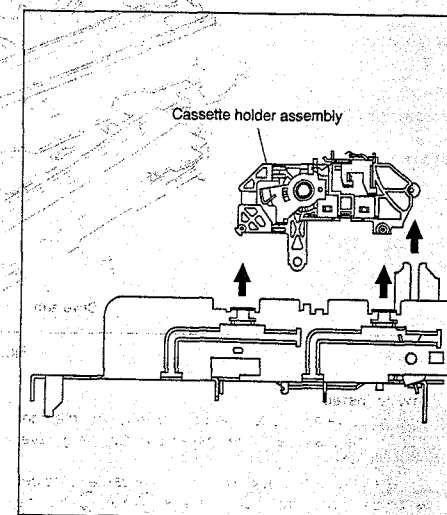
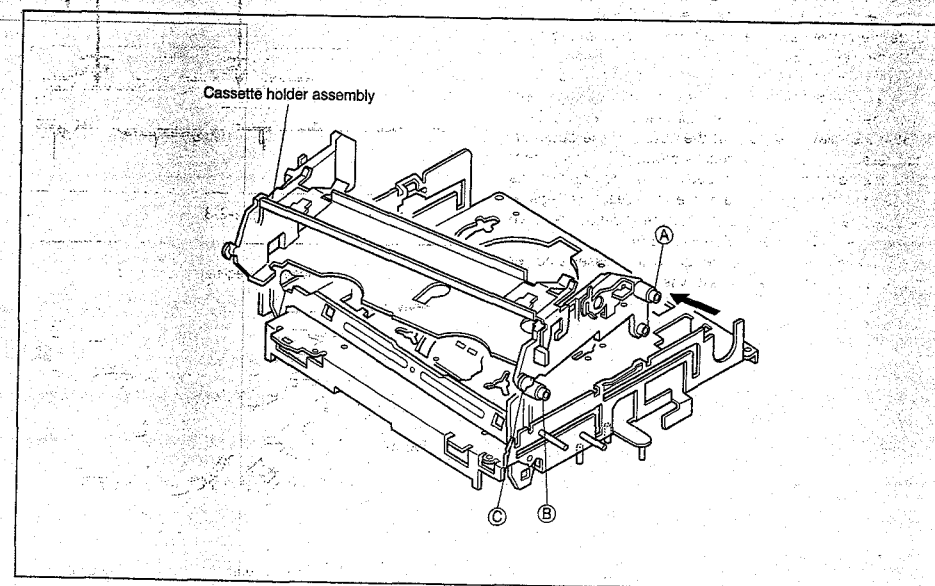

Fig. 2-2-5
Fig. 2-2-6
- (5) While holding the left side of the cassette holder, lift the cassette holder assembly so that the three legs on the left side are all released. Then pull the legs A and B on the right side out of the rail and also pull up the leg C. (See Fig.2-2-5; Fig.2-2-6)